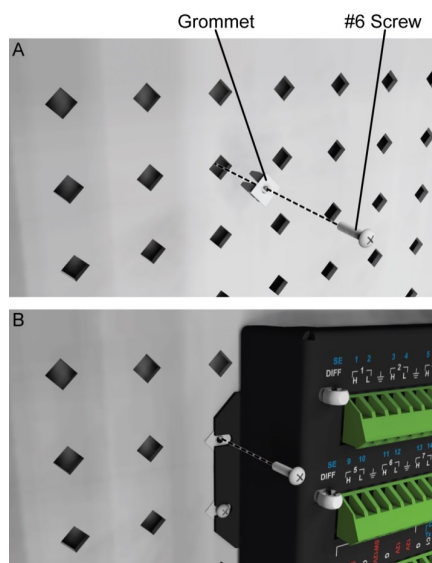

FIGURE 6-1. Securing components to the enclosure backplate
4. Use the #6 screws and plastic grommets to mount additional components to the enclosure backplate (see FIGURE 6-1 (p. 8)). Data loggers, power supplies, and most components are usually attached to the backplate prior to shipment from the factory or are supplied with additional screws and grommets.
2. Use the #6 screws and plastic grommets to mount additional components to the enclosure backplate (see FIGURE 6-1 (p. 8)). Data loggers, power supplies, and most components are usually attached to the backplate prior to shipment from the factory or are supplied with additional screws and grommets.
To insert the grommet, push the points of the flanges into the center of any square hole (see A in FIGURE 6-1 (p. 8)). To remove a grommet without damage, remove the enclosure backplate and use pliers to pinch the grommet flanges together.